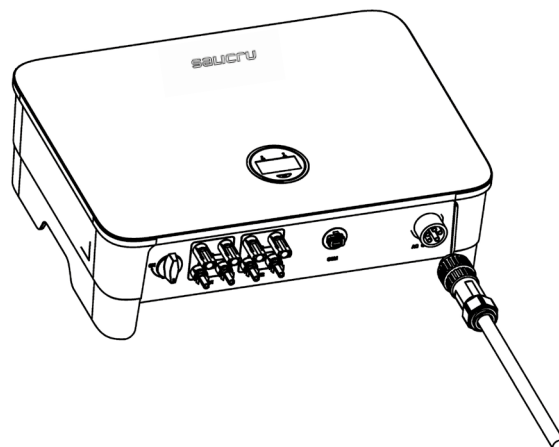

Fig. 37. Connecting the AC connector to the inverter's AC terminal.
- f. Connect the AC connector to the inverter's AC terminal; a click indicates that the connection is in place, as shown in Fig. 37: